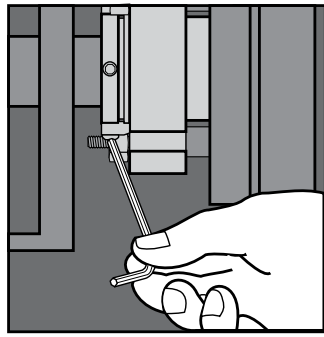

Figure 5
2.10 **Remove the setting devices** from the drive collar by loosening the cap screws. See Figure 5. Save the setting devices and fasteners for future use when the pump impeller is reset or when the seal is removed for repairs.